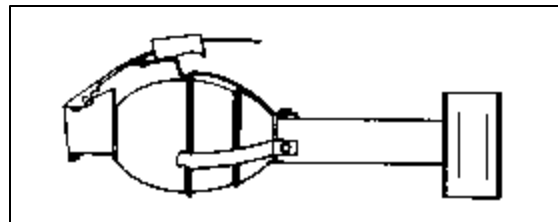

Figure 58. M1A2 grenade projection adapter.
- (6) A grenade projection adapter is shown in Figure 58.